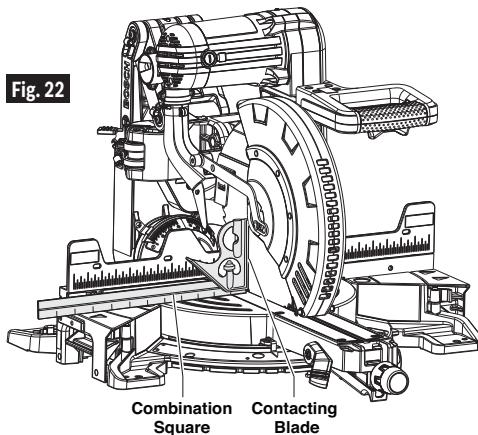

Fig. 22
8. Use a combination square to check that the blade is 90° (square) to the table. Place the square's ruler edge against the table and slide it to contact the blade with the vertical side of the square's head (see Figure 22).
4. Place combination square on table and against blade (see Figure 22).
8. Adjust bevel scale pointers (item 36 – page 12) to be in line with the bevel scale's 0° lines.